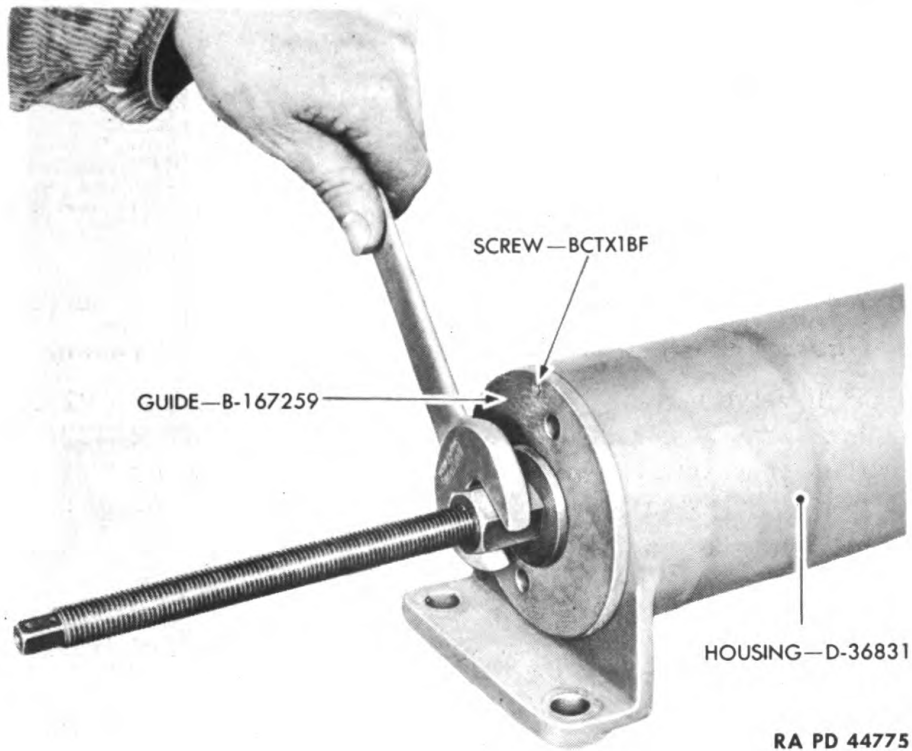

Figure 114—Installing Replenisher Piston Extractor
a. Screw the short threaded end of the replenisher piston extractor 15-5-379 (fig. 22) fully into rear of piston; then screw extractor washer and nut up tight against replenisher guide B167259 (fig. 114).